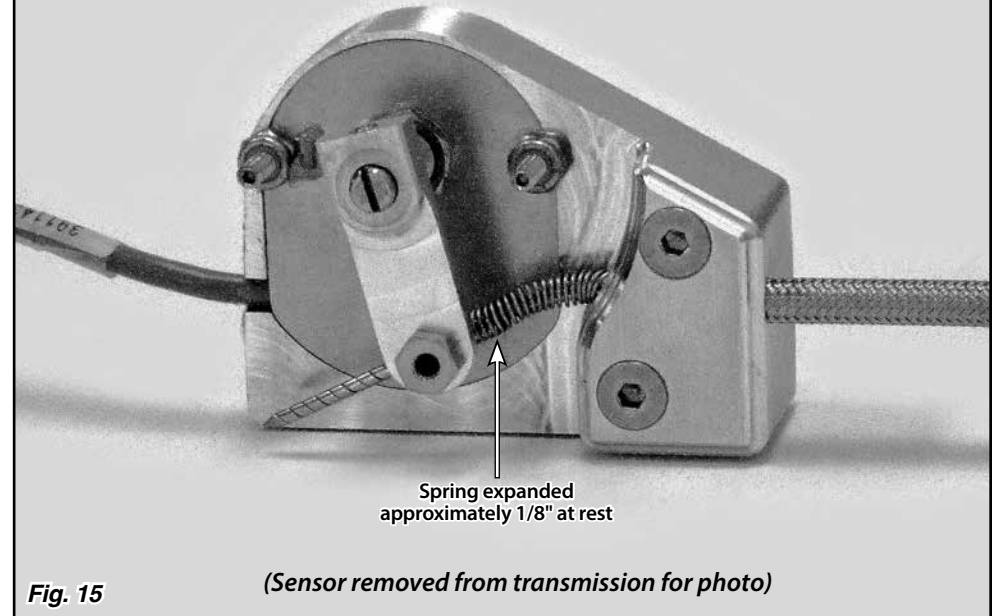

Fig. 15
- **All applications with the trans arm pointing DOWN: Push the sensor arm as far as it will go until the spring is completely compressed. Then, let the spring expand approximately 1/8". Fig. 15** While holding that position, tighten the set screw in the index cable stop on the sensor arm using a 1/16" Allen wrench.